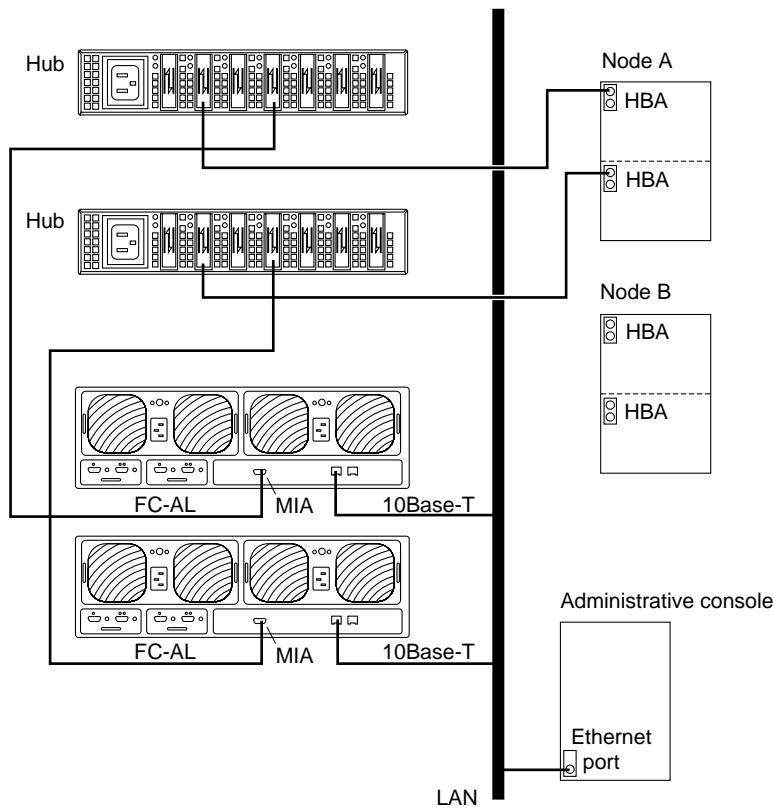

FIGURE 8-3 Adding a StorEdge T3 Disk Tray in a Single-Controller Configuration
20. If necessary, install gigabit interface converters (GBIC), as shown in FIGURE 8-3.
21. If necessary, connect a fiber-optic cable between the Sun StorEdge FC-100 hub and Node A as shown in FIGURE 8-3.